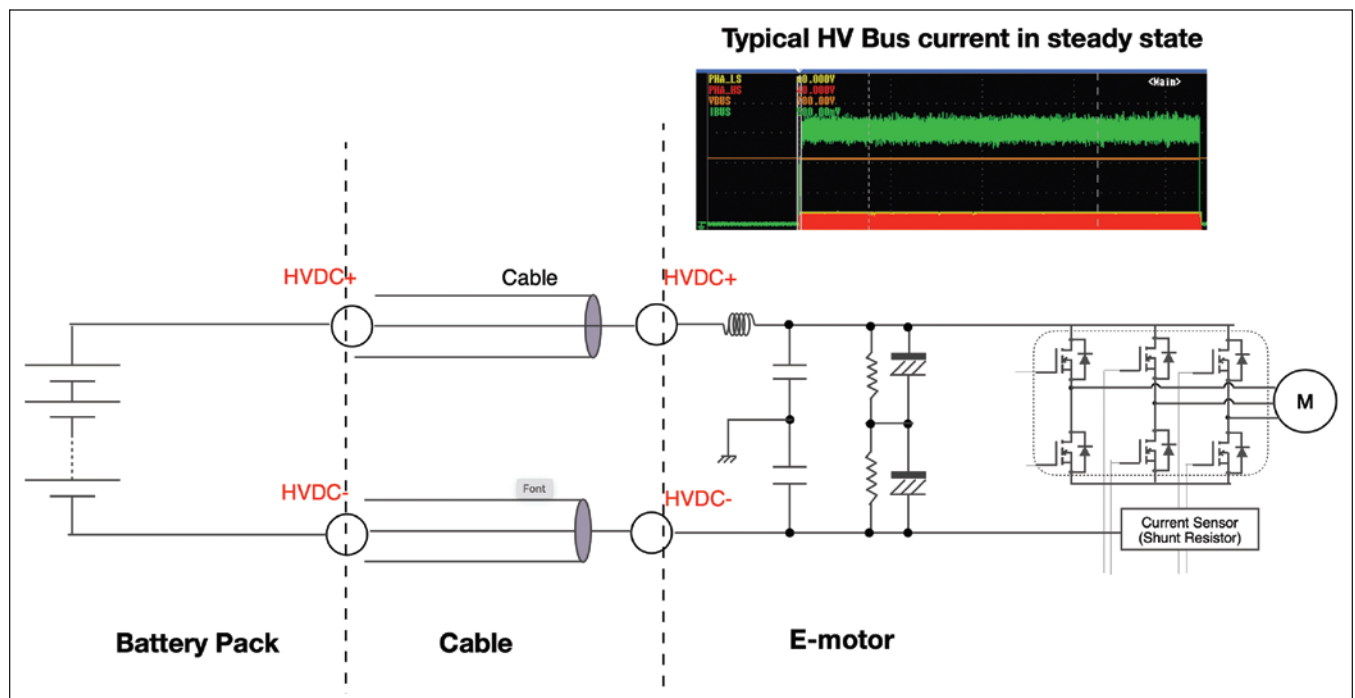

Figure 2: A simplified system diagram of a battery pack supplying power to a traction motor
A simplified system diagram is shown in Figure 2. Often there is a high-voltage (HV) junction box between the HV battery pack and other HV loads. For demonstration purposes, the junction box and other HV loads are not shown.